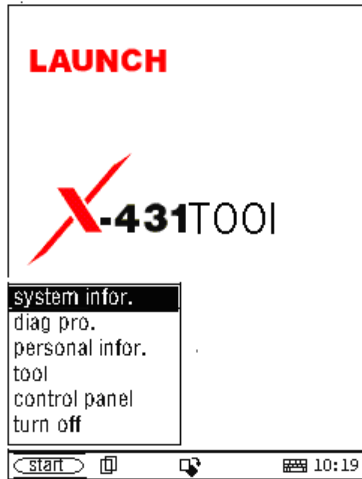

Fig 4-39
- 3) Select 'User' in the pop-up list to open the User Information interface. (See Fig 4-39)